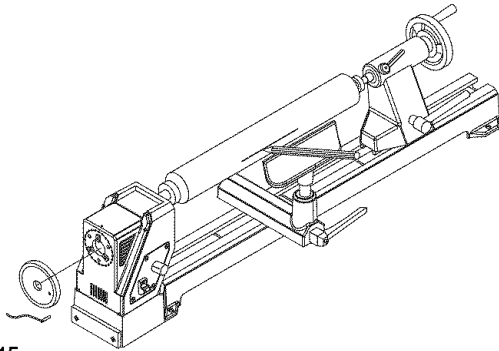

Figure 15
- Adjust the 12" tool rest to the centerline of the workpiece and make a mark (see Figure 15).